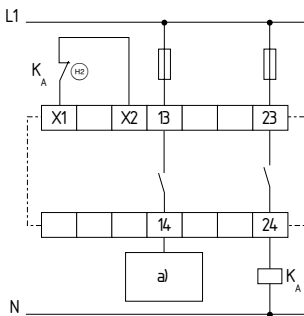

Fig. 11
**Differentiated control with feedback circuit (Fig. 11)**